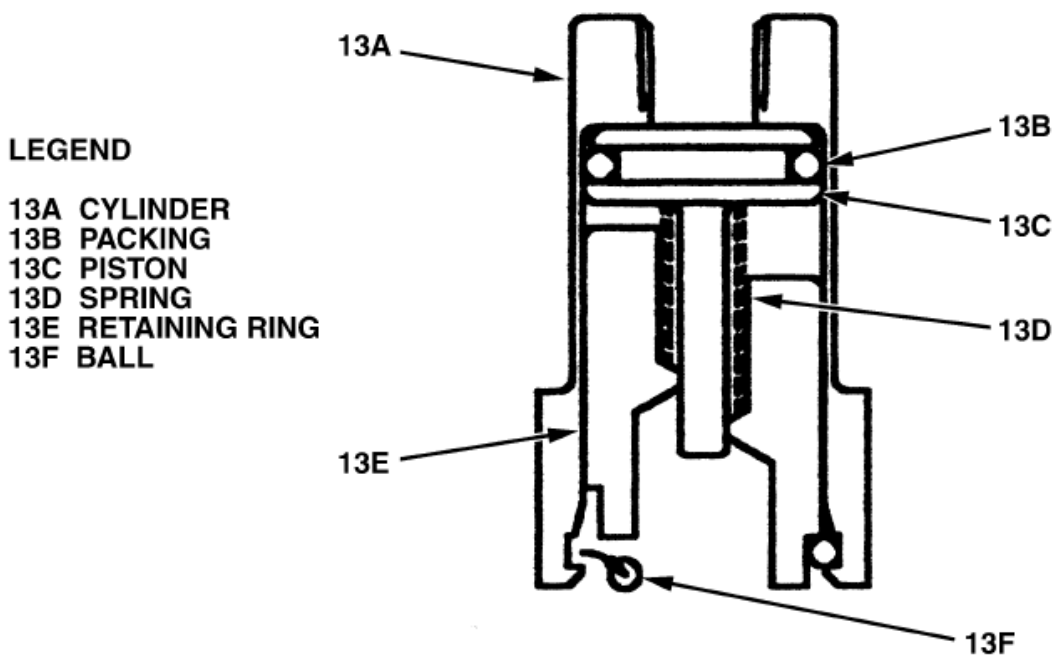

Figure 6. Air Servo Assembly
11. (Mod D and F) Overhauling the Air Servo Assembly (See Figure 6 and IPL Figure 1)